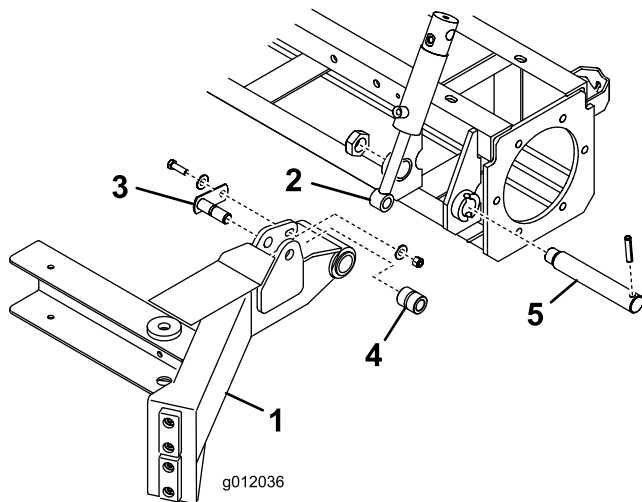

Figure 9
1. Mount left lift arm assembly to frame with lift arm pin and nut previously removed (Figure 9). Torque the nut to 60–70 ft–lb.
2. Mount cylinder end to lift arm with cylinder pin, spacer (GM 4100 only), 3/8 x 1-1/4 inch screw, .406 x .813 flatwasher and 3/8 flange locknut. (Figure 9). Torque to 27–33 ft–lb. Spacer to be positioned between lift arm plates and on cylinder pin when installed in cylinder end.